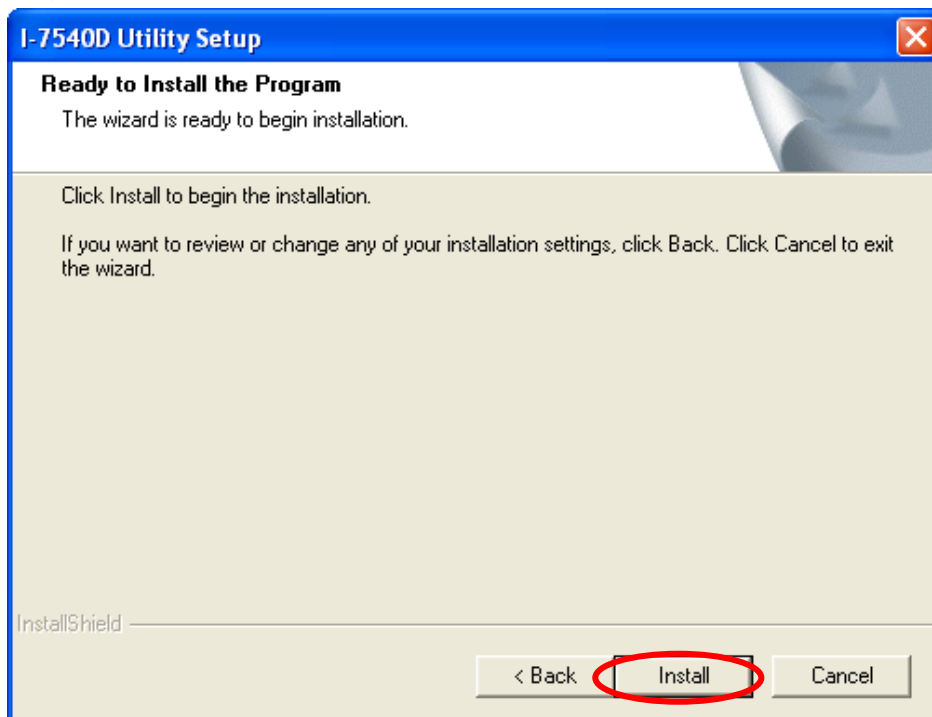

Figure 3-4: “Ready to Install the Program” dialog
**Step 5:** Click “Next” button and a “Ready to Install the Program” window will pop up to prompt user that the wizard is ready to begin the installation. See figure 3-4.